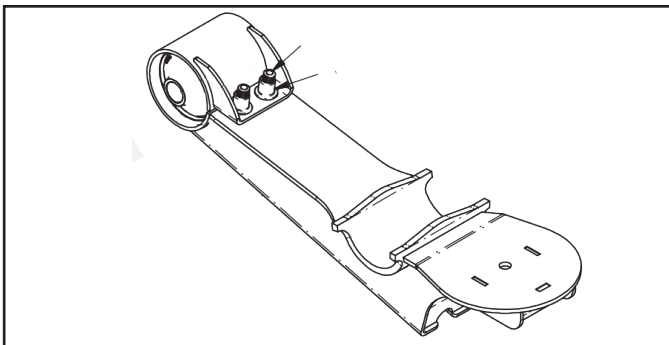

Figure 6.
3. Remove Huck® fasteners from the bushing clamp and discard (Figure 6). Open the bushing clamp, remove the pivot bushing assembly and discard.